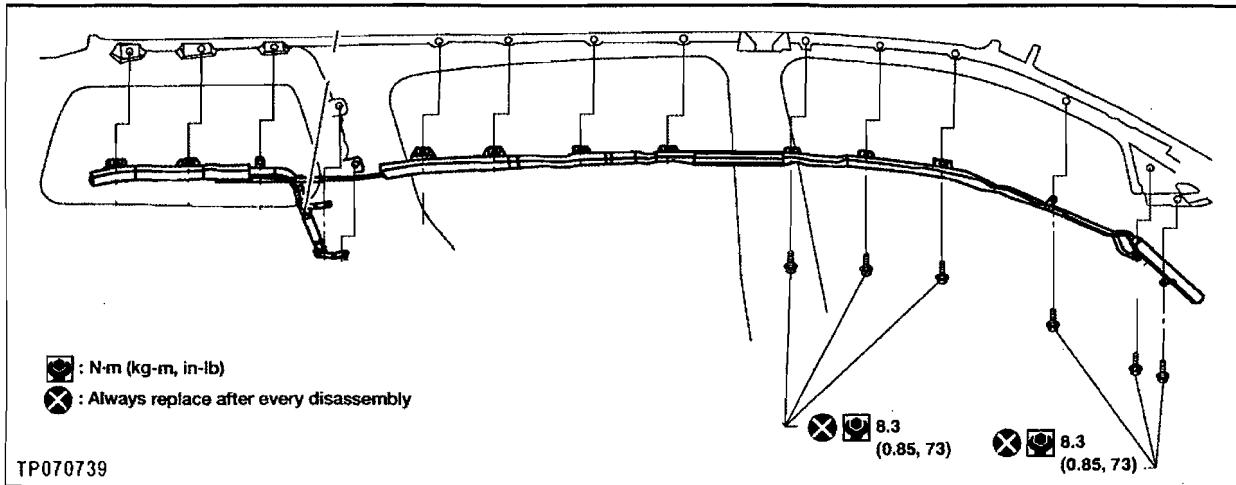

Figure A38
6. Remove the 6 right side front curtain air bag module mounting bolts shown in Figure A38.